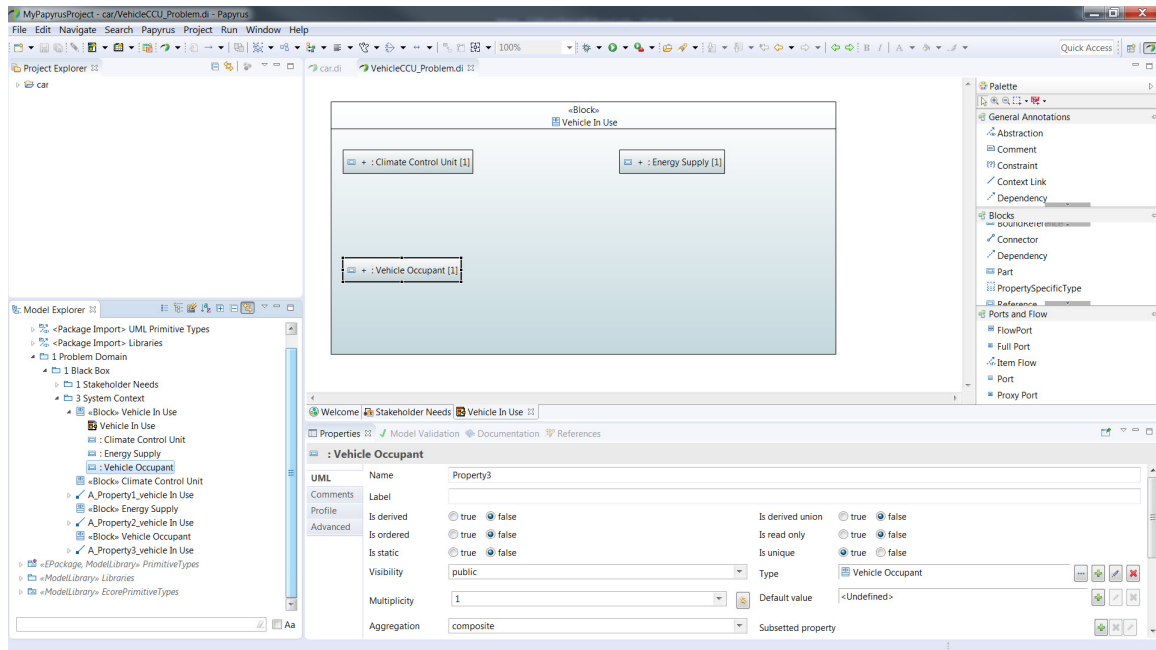

Figure 24: Vehicle In Use IBD
7. Create two more parts; one called *Vehicle Occupant* and one called *Energy Supply*. When finished your diagram should look like figure 24.